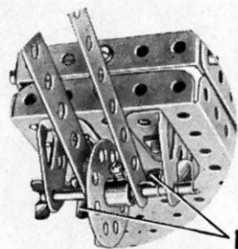

Fig. O.4a
The 5½" Strips forming the handle are placed one on each side of a Bush Wheel on the front axle, and they are held in place by Spring Clips (1) as shown in Fig. O.4a.